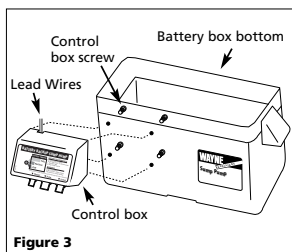

Figure 3
1. Attach control box to the side of battery box as shown in Figure 3. Place battery in box, attach red cable to positive battery post and black cable to negative post. Put lid on box.